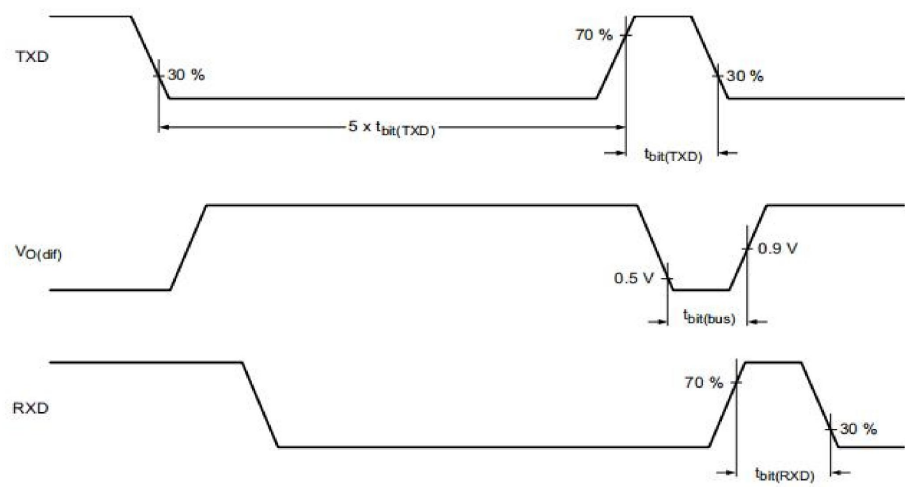

Fig 4. CAN FD timing definitions according to ISO 11898-2:2016
- (1) In transceivers without a V_{IO} pin, the V_{IO} input is internally connected to V_{CC} .
- (2) All parameters are guaranteed over the virtual junction temperature range by design. Factory testing uses correlated test conditions to cover the specified temperature and power supply voltage range.
- (3) See Figure 4.
- (4) Minimum value of 0.8ms required according to SAE J2284; 0.3ms is allowed according to ISO11898-2:2016 for legacy devices.